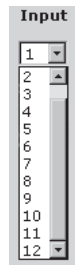

Figure 6-10 — Input selection drop box
1. Click the Input drop box. A drop down scroll box appears (figure 6-10).